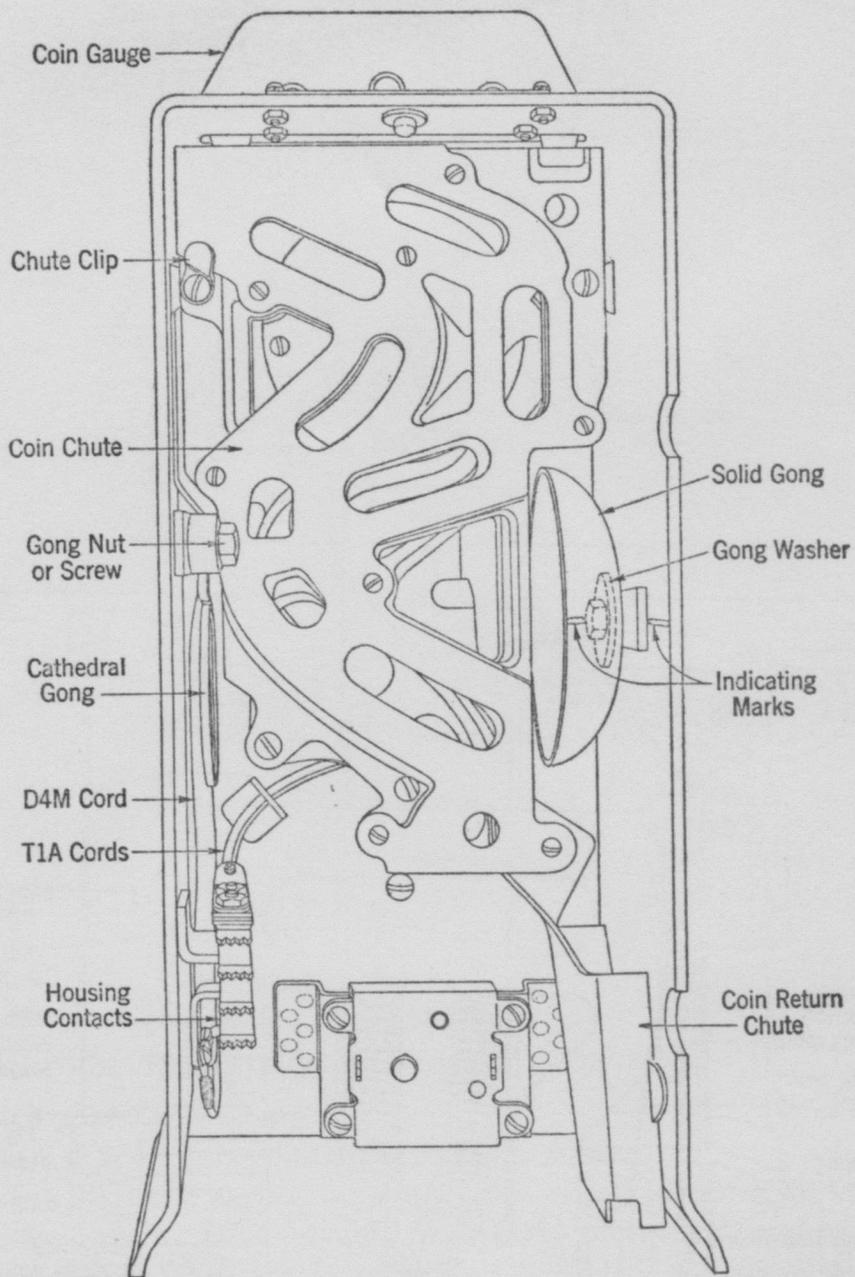

Fig. 2
- 2.03 See that chute clip is installed on all chutes except on P-242923 and P-243570 chutes. (See Fig. 2.)